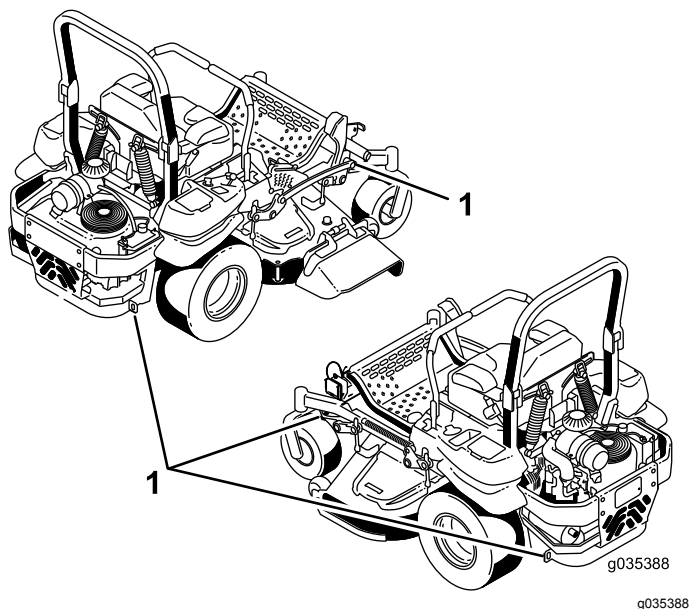

Figure 41
5. Use the metal tie-down loops on the machine to securely fasten it to the trailer or truck with straps, chains, cable, or ropes (Figure 41).